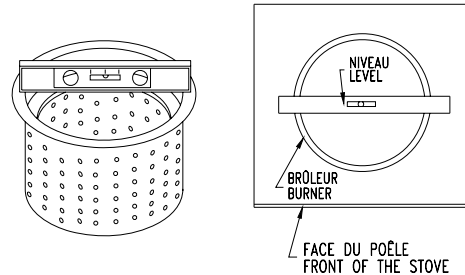

Figure 9A: LEVELLING THE BURNER
- Put the level on the burner's rim, parallel to the door. (Figure 9A). Screw or unscrew the adjustable threaded legs to level the burner. Use a 7/16" or 10 mm key.